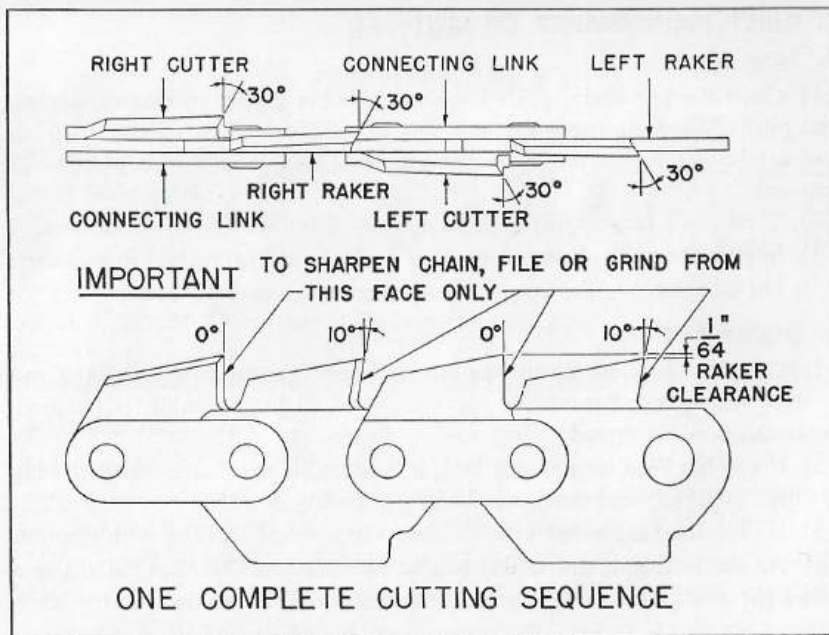

Figure 12a—Construction of Homelite Saw Chains
(1) Construction (See Figure 12a)
(a) The construction of the saw chain is illustrated in Figure 12a. Every set of 4 teeth forms a cutting sequence as follows: right cutter, right raker, left cutter and left raker. This sequence is repeated throughout the entire chain.
(a) To sharpen the teeth (See Figure 12a)